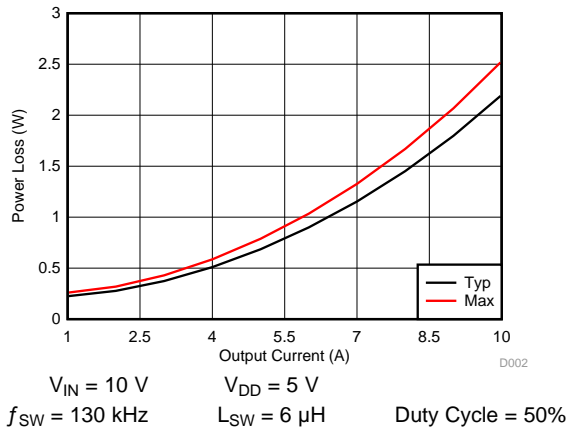
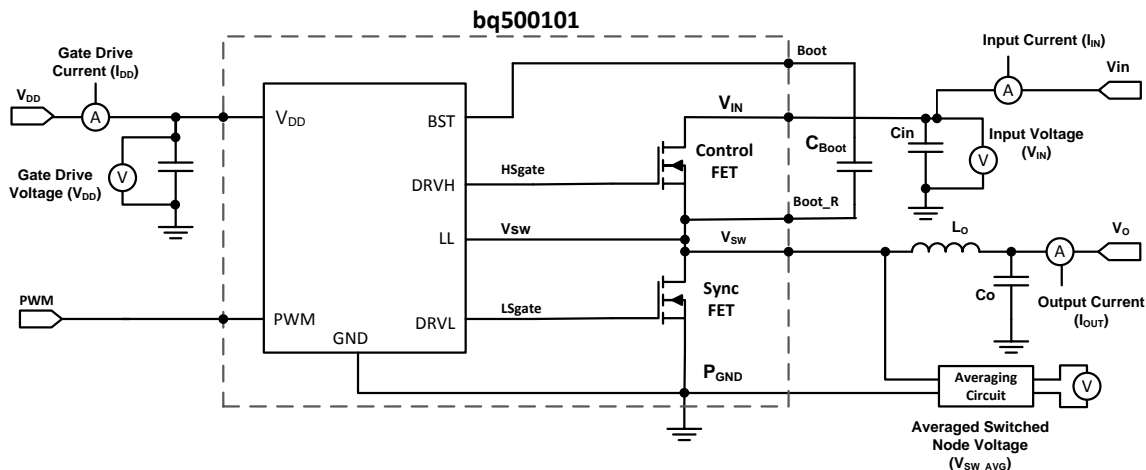

Figure 3. Power Loss vs Output Current
Figure 10. Power Loss Test Circuit
MOSFET centric parameters such as ON-resistance and gate charges are primarily needed by engineers to estimate the loss generated by the devices. In an effort to simplify the design process for engineers, Texas Instruments has provided measured power loss performance curves. Figure 3 plots the power loss of the bq500101 as a function of load current. This curve is measured by configuring and running the bq500101 as the circuit shown in Figure 10. The measured power loss is the bq500101 device power loss which consists of both input conversion loss and gate drive loss. Equation 1 is used to generate the power loss curve.
The power loss curve in Figure 3 is measured at the maximum recommended junction temperature of $T_J = 125^\circ\text{C}$ under isothermal test conditions.
- Typical Power Loss at 9 A = 1.78 W (Figure 3)